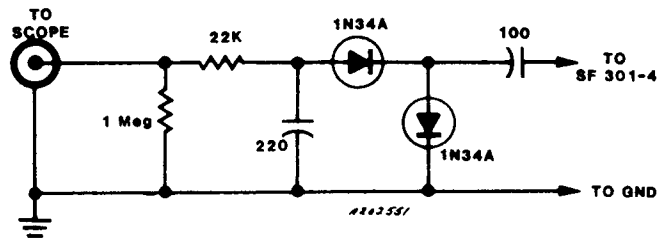

Fig. F1-1—Detector Probe
2. Connect oscilloscope through detector probe (Fig. F1-1) to input of SAW device (SF301 pin 4).
3. Connect Oscilloscope through detector probe (Fig. F1-1) to TP301, collector of IF output transistor Q303.